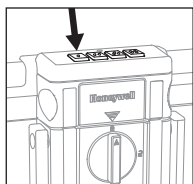
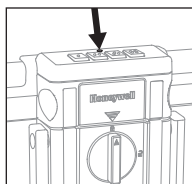

Figure 1.7
Figure 1.8
1. Enter factory default passcode (Figure 1.7), with each digit entry, the LED will flash red once (Figure 1.8).